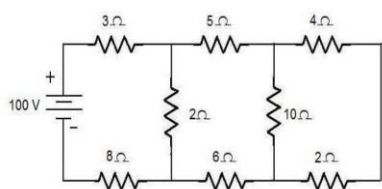

Fig.1
9. Find current through all the branches of the network shown in fig1.below.